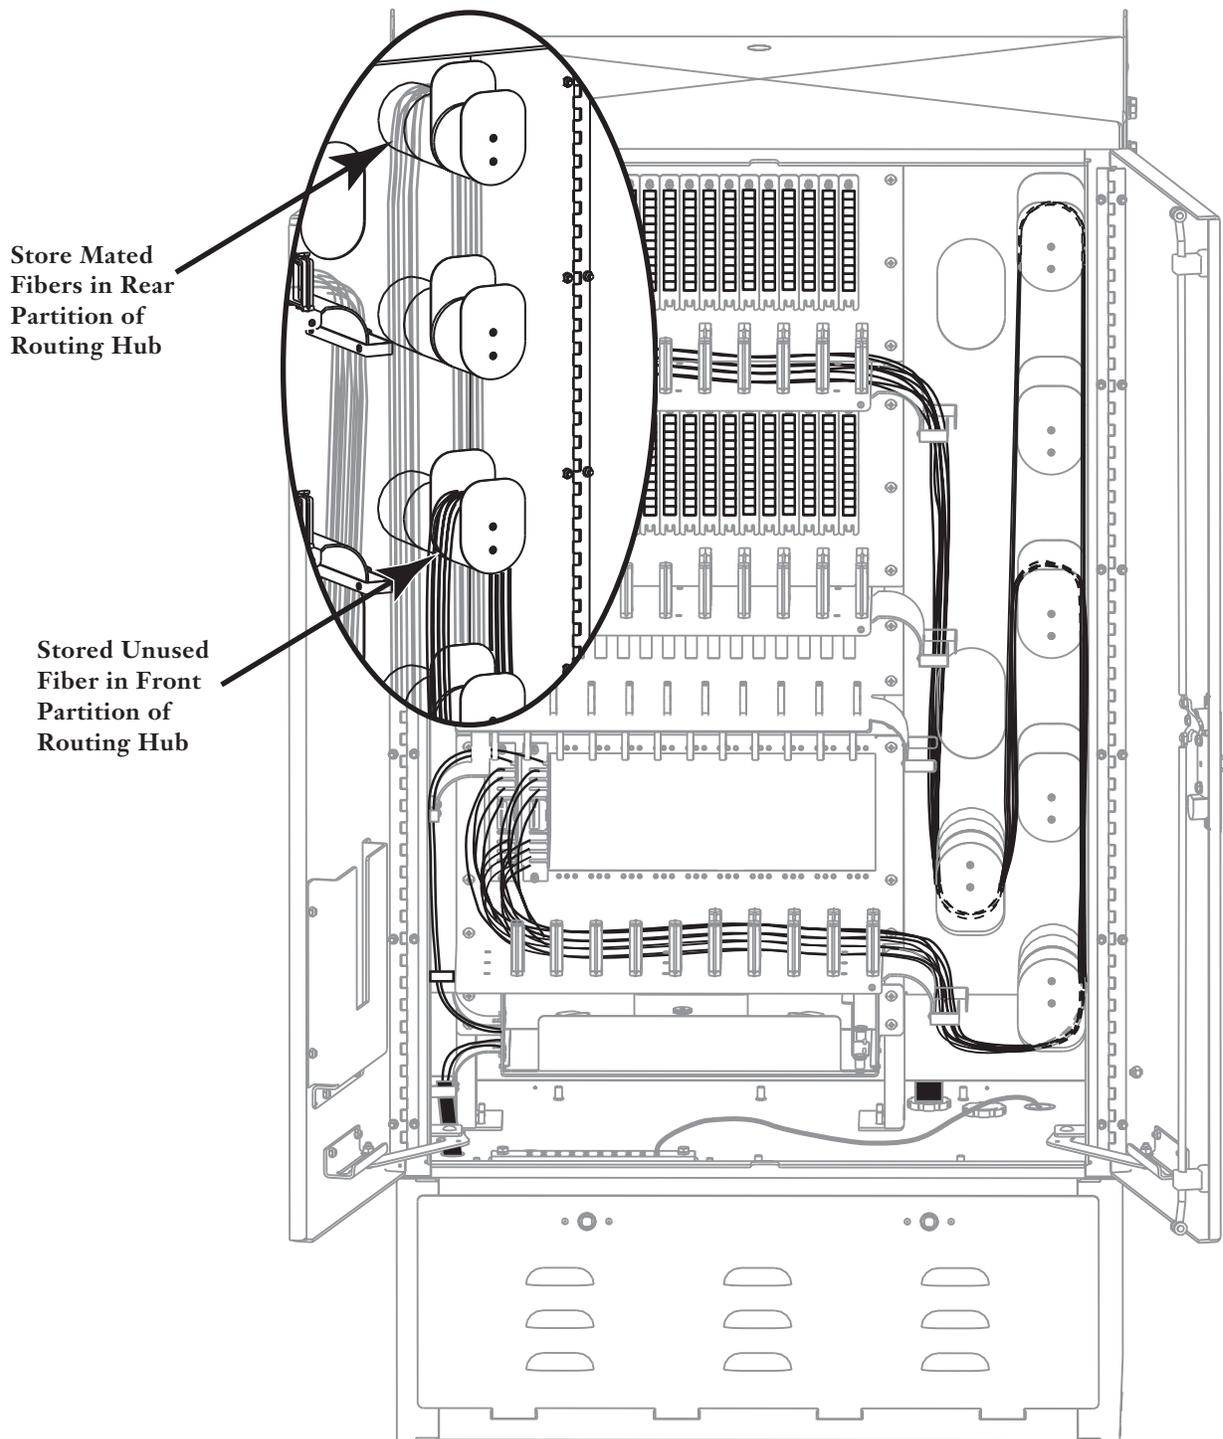

Figure 14 — Store Coupler Output Fiber Slack
- Step 6** Route the coupler output fiber slack from the used coupler output fibers in the back partition of the slack storage hubs as shown in Figure 14.
- Step 3** Route the coupler output fiber slack in the front partition of the slack storage hubs as shown in Figure 14.